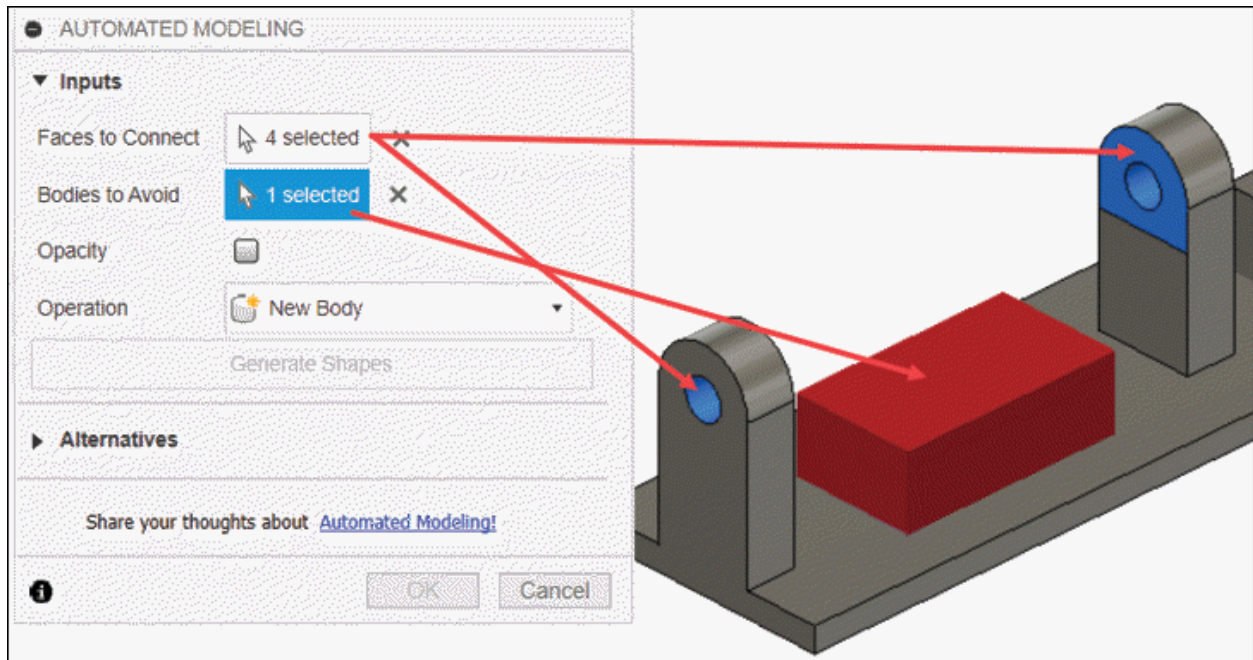

Figure-67. Selection for automated modeling
- Select desired bodies/components to be avoided; refer to Figure-67.